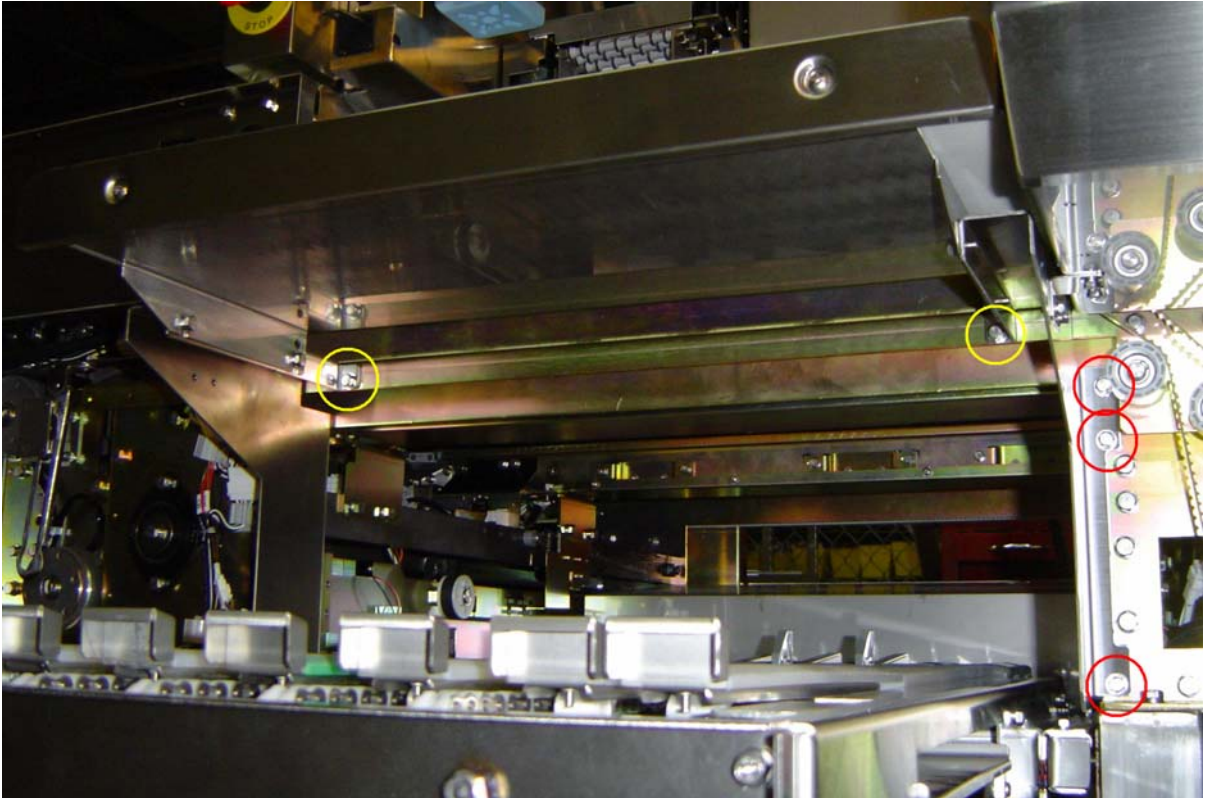

Figure 4. Exit Conveyor mounting bolts (five of eight).
6. Remove Exit Conveyor. **[See Figure 4]**